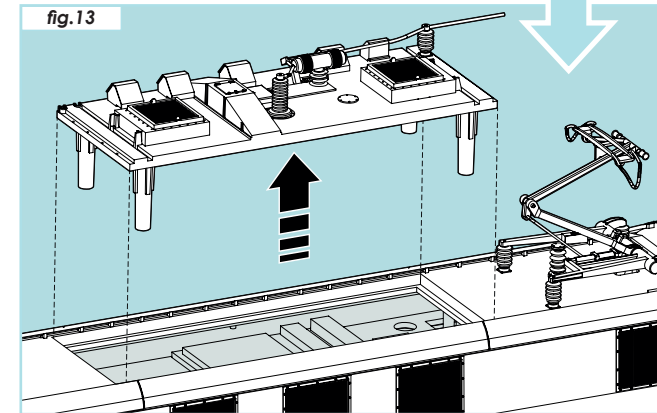

fig.13
2. Turn the locomotive onto its wheels and remove the roof panel, take care as the moulded details are fragile (fig.13)